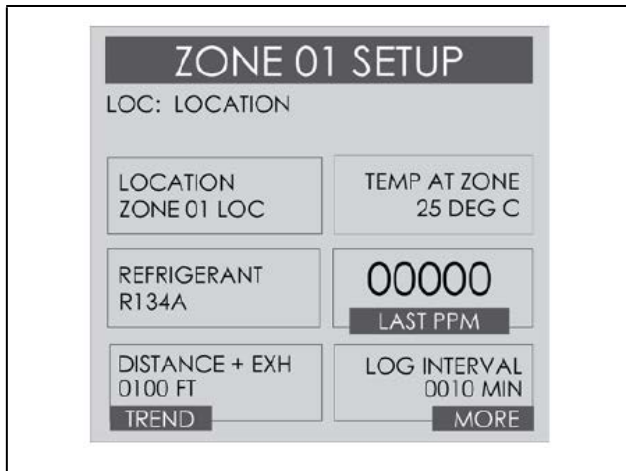

Figure 7-1 - Zone Setup Screen 1
The RLDS retains a data log of 100 measurements for each zone. The log interval is the number of minutes from 1 to 1440 between each log point. This parameter can be changed from **Zone Setup screen 1** (**Figure 7-1**).
Select the **MORE** option at the bottom right side of the screen (**Figure 7-1**) to continue to the next screen containing more options. This screen displays the peak PPM value in the upper left side of the screen.
- **SETUP** - using the right arrow key, navigate to the **Zone Setup screen 1 (Figure 7-1)**. This enables review of the zone setup parameters and accesses the **Trend** screen.